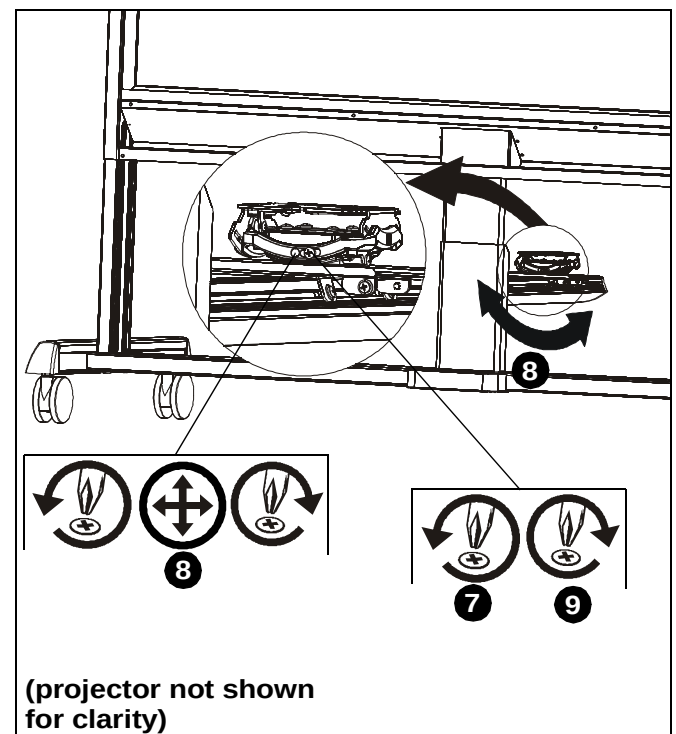

Figure 19
13. Loosen Roll adjustment locking screw. (See Figure 19)
14. Turn Roll micro-adjustment screw right or left until image is properly aligned on screen. (See Figure 19)
15. Tighten Roll adjustment locking screw. (See Figure 19)